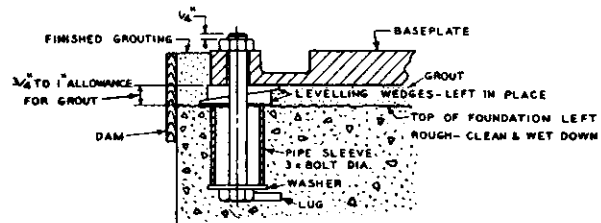

Fig.3-2
A template should be made to position and hold the foundation bolts in place while pouring the concrete. Location and sizes of bolt holes are shown on the certified drawing supplied to the purchaser. Each bolt is installed in a pipe sleeve, the inside diameter of which should be three times the outside diameter of the bolt. The pipe sleeve allows for minor adjustments in bolt spacing after foundation is in place (Fig. 3-2). Two methods commonly used to secure and prevent bolts from turning are:
- a. A washer is placed between the bolt head and pipe sleeve with a lug welded to the bolt head (Fig. 3-2).
Stuff waste paper between foundation bolts and sleeves to prevent concrete from entering while foundation is being poured. Foundation bolt must be long enough to allow from $\frac{3}{4}$ " to 1" for grouting under the baseplate (Fig. 3-2). When pump is level, the bolts should extend $\frac{1}{4}$ " through the nuts. Leave top surface of foundations rough for adherence of grout.
2. **Grouting** — Build a board dam around the foundation to the desired height for finished grouting (See Fig. 3-2). A mixture of one part portland cement to two parts clean sand with just enough water to mix to a thick creamy consistency should be made for grout. Wet the underside of the baseplate and foundation top, then pour the grout through the holes in the baseplate. Thoroughly puddle the grout during pouring to prevent air pockets and hollow spots. After grout has set sufficiently, remove the board dam and finish off the grout as desired. When grout has hardened, usually in about 48 hours, pull up on foundation bolts.